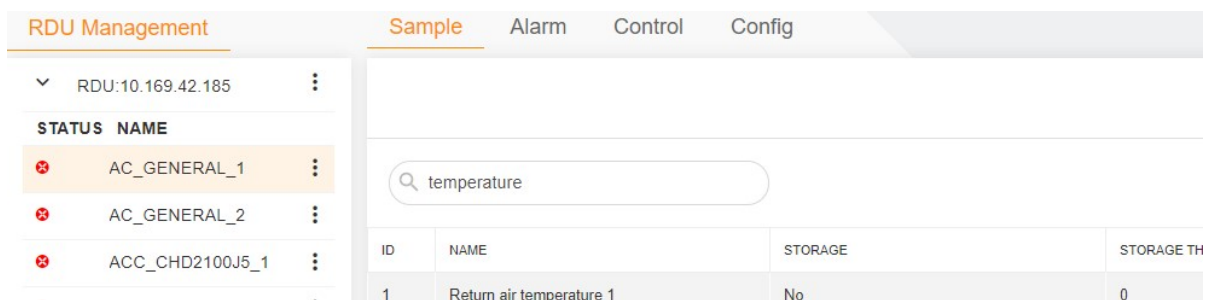

Figure 6-24 Editing the signal
1. Click on the rightmost of the signal to be edited, and select **EDIT** (as shown in Figure 6-24).